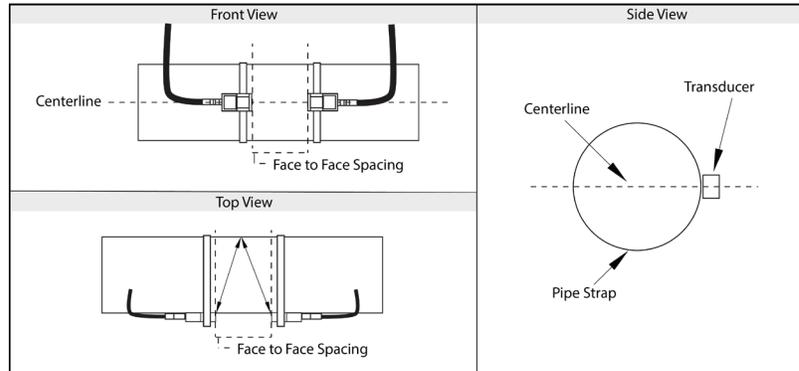

Figure 4. Transducer Spacing
Press the  key to move to the “Transducer Spacing” and setup menu. Because your transducers are not mounted to the pipe at the correct spacing yet, the waveform will just look like random noise shown below. See the suggested spacing below; in this case 2.48 inches. Make a mark on your pipe at suggested transducer spacing. (See Figure 4). You can also use the MeterFit™ app on your Smart Interface Portal (SIP) software. Download software at [sierrainstruments.com/downloads/207i](http://sierrainstruments.com/downloads/207i).
1. Make contact on the pipe at the pipes centerline. See “Transducer Space” in Figure 4.